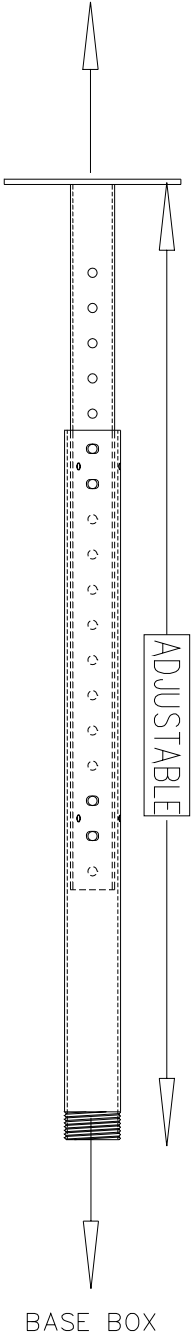

Figure 3
4. The upper pipe has a duplicate set of thru holes. This allows you to change the normal 24" to 46" adjustable range to 12" to 24" (Figure 3).
5. Adjustable range with a simple cut of the adapter. We recommend cutting 5/8" from the center of the first hole of the second set of thru holes on the upper pipe. Cut between the 8th and 9th hole from the mounting plate (Figure 3).